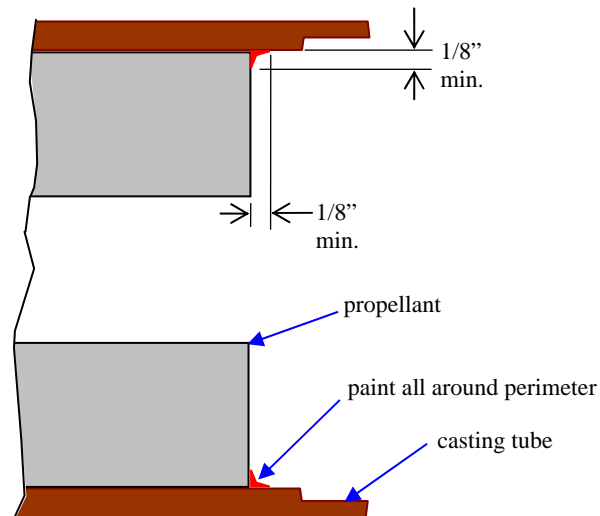

Figure 1
6. Paint ends of both grains at boundary region where propellant meets the casting tube, as illustrated in Figure 1. Use a non-flexible enamel paint. Prior to painting, clean region with alcohol or paint thinner.